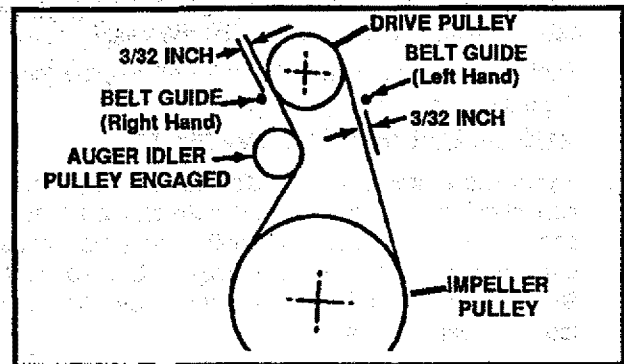

FIG. 30
- Loosen the belt guides (See Fig. 30) and pull away from the drive pulley.
- Loosen the auger idler pulley (See Fig. 30) and slip the belt out.
- Measure the distance between the belt guides and the belt (See Fig. 30). The distance should be $3/32$ " for each guide.